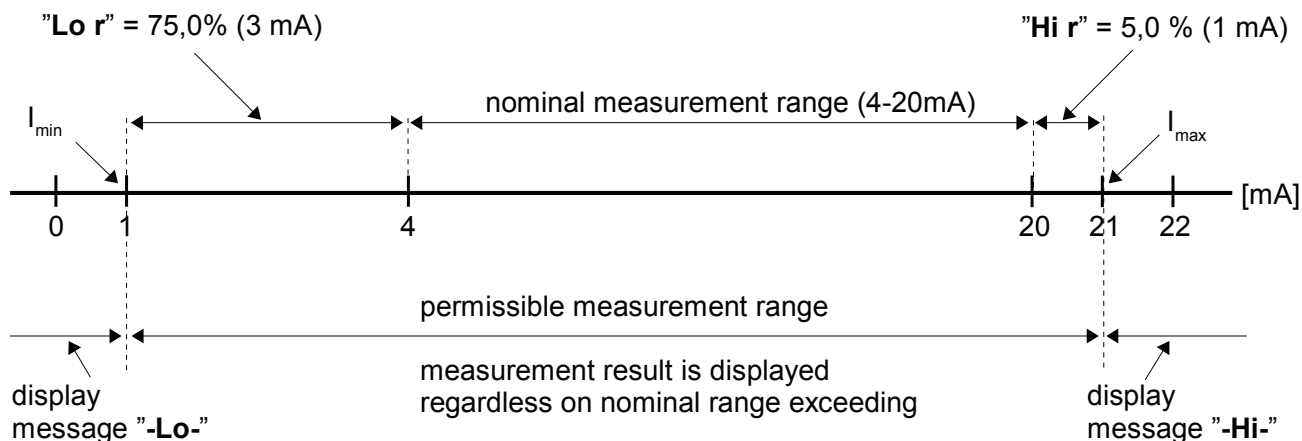

Figure 7.1 Example of definition of permissible range of input signal -
- these parameters define the expansion of nominal range in percent. They determine the permissible range of input signal (Figure 7.1).